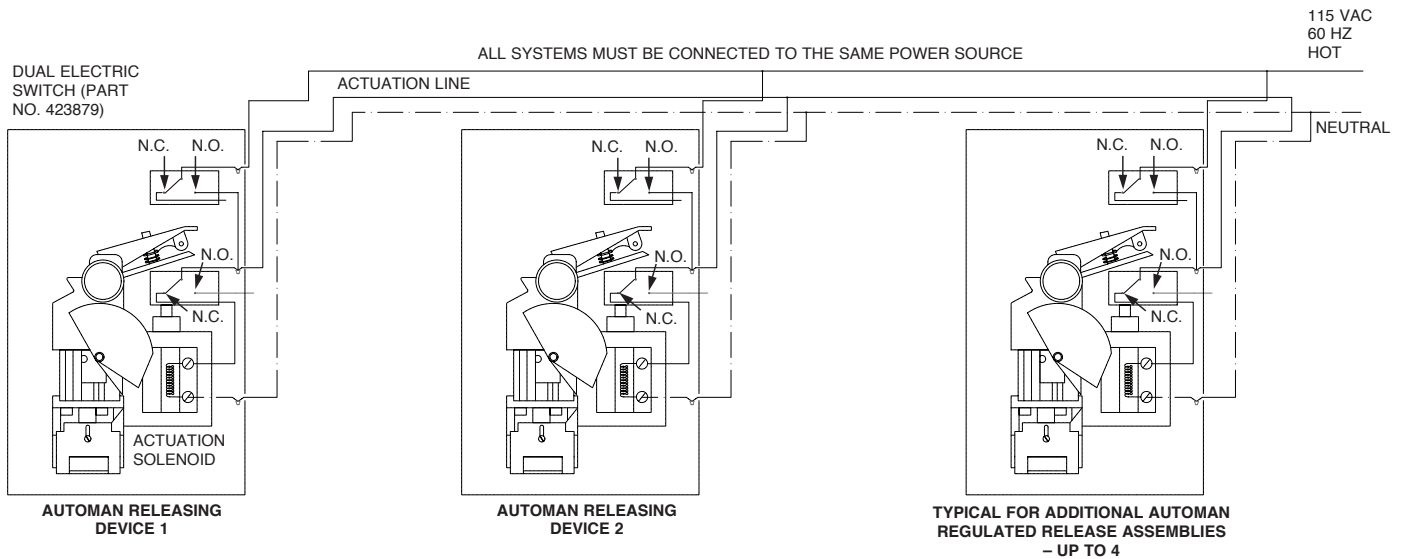
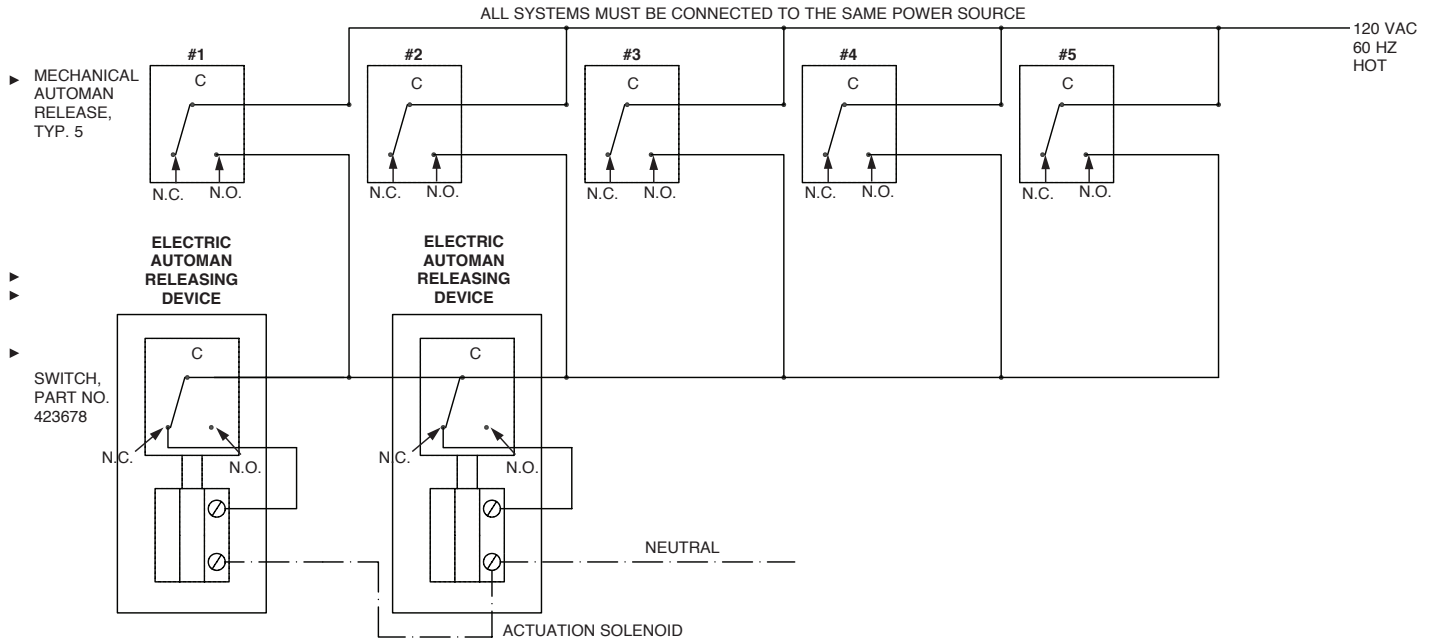

FIGURE 9-3
FIGURE 9-4
In the case of multiple hoods sharing a common exhaust duct, NFPA 17A requires one of two forms of simultaneous operation. The following wiring diagrams (See Figure 9-3 and Figure 9-4) identify two principle uses for the 120 VAC electric AUTOMAN regulated release assembly. See Section 3 - System Components, Page 3-2, Figure 3-4.
1. Simultaneous operation of all independent hood, duct, and appliance protection systems. See Figure 9-3.
2. Simultaneous operation of any hood, duct, and appliance protection system and the systems protecting the entire common exhaust duct. See Figure 9-4.